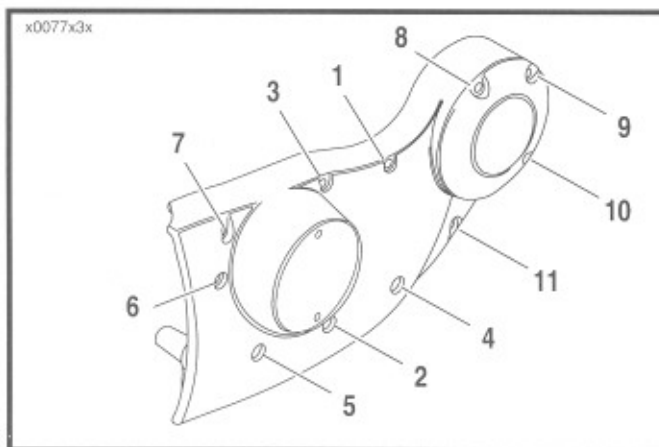

Figure 3-72. Gearcase Cover Mounting Screw Torque Sequence
5. Install gearcase cover over all gears and onto right crankcase half (10). Secure cover to crankcase half with 11 socket head screws. Tighten screws evenly to 80-110 **in-lbs** (9.0-12.4 Nm) torque according to the torque sequence shown in Figure 3-72.